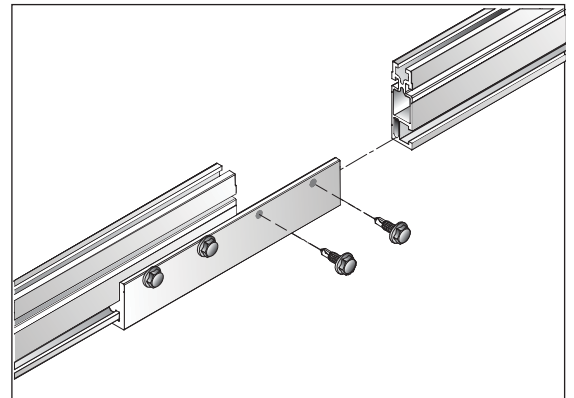

Figure 13. Splice bars slide into the footing bolt slots of SolarMount rail sections.
**Installing Splices:** If your installation uses SolarMount splice bars, attach the rails together (Fig. 13) before mounting the rails to the footings. Use splice bars only with flush installations or those that use low-profile tilt legs.